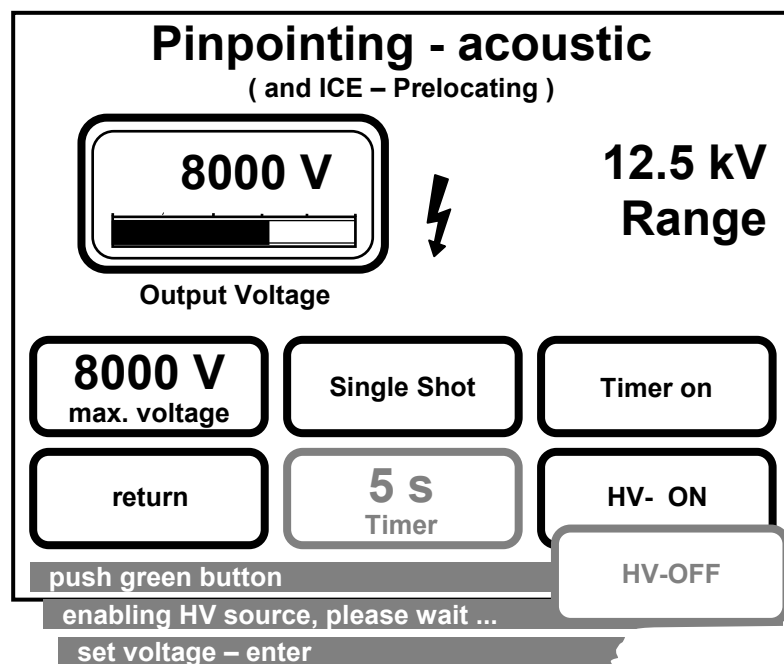

Fig. 18: Menu ICE (impulse current / surge pulse method)
3. After selecting the desired voltage range the above menu appears (Fig. 18: Menu ICE (impulse current / surge pulse method)).